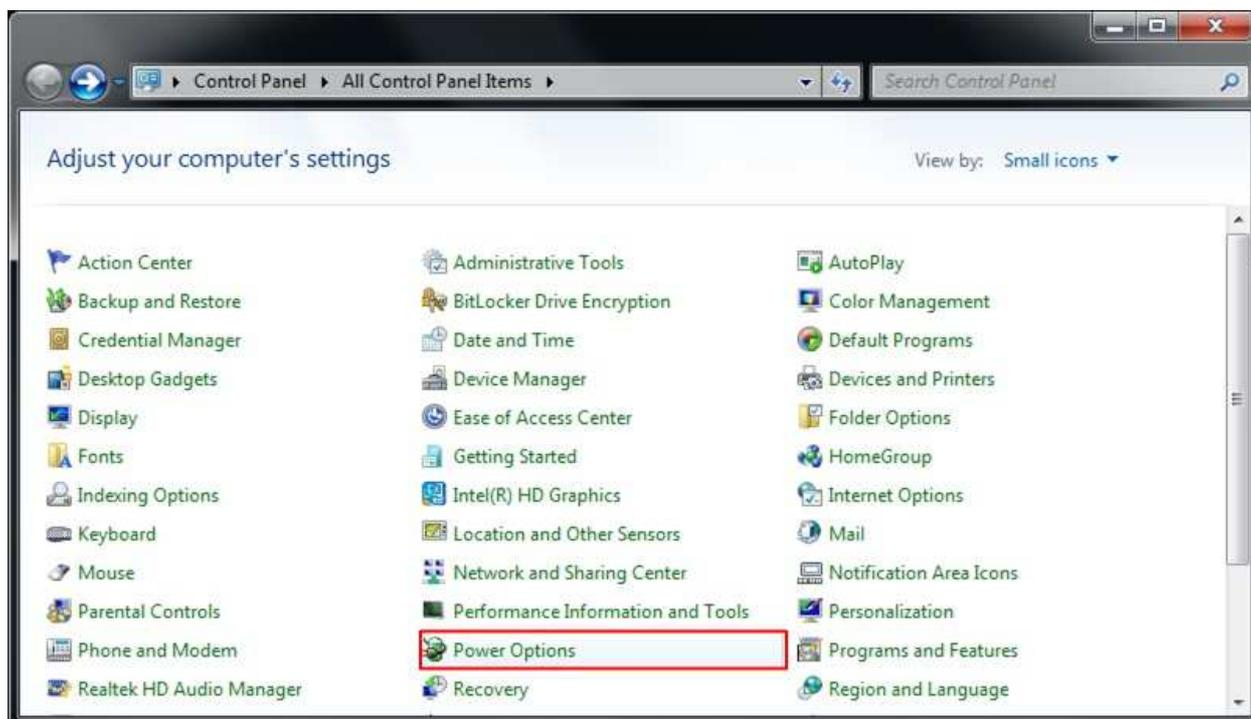

Figure 8 Power Options
- Open Control Panel and select Power Options as shown in Figure 8.